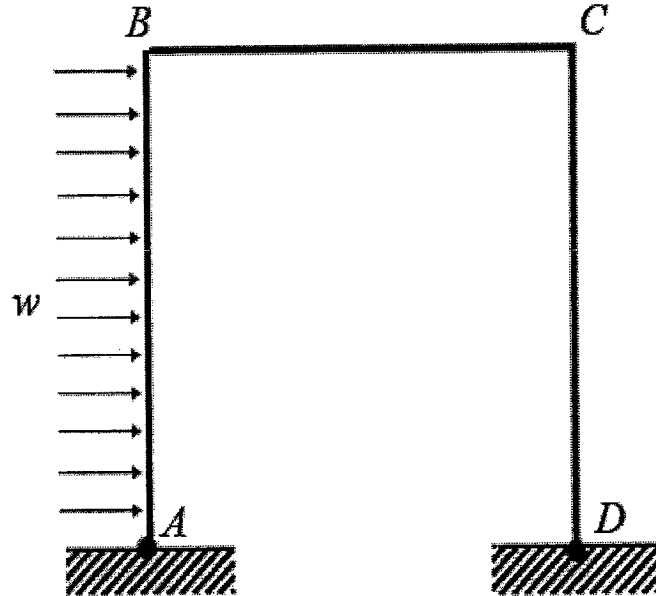

Figure Q6: Portal frame
- (a) The framework shown in Figure Q6 is pin-jointed to the ground at  $A$  and  $D$  and is loaded along  $AB$  with a distributed load  $w$ . If the flexural rigidity  $EI$  is constant throughout, obtain expressions for the reactions at  $A$  and  $D$  using the strain energy approach. [10 marks]
- (b) If in Figure Q6  $EI$  is constant for the frame, and the dimensions of the frame are  $AB = CD = 4$  m and  $BC$  is  $\frac{1}{2}AB$ , calculate the horizontal and vertical reactions at  $A$  and  $D$  for  $w = 1,000$  kN/m. [10 marks]